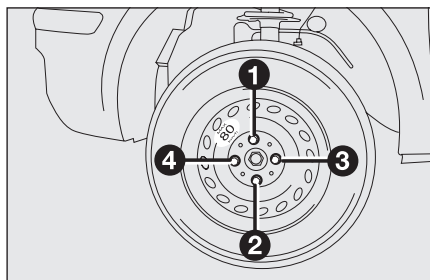

fig. 9
- ☐ fasten the bolts completely, working in a criss-cross fashion as shown in **fig. 9**.